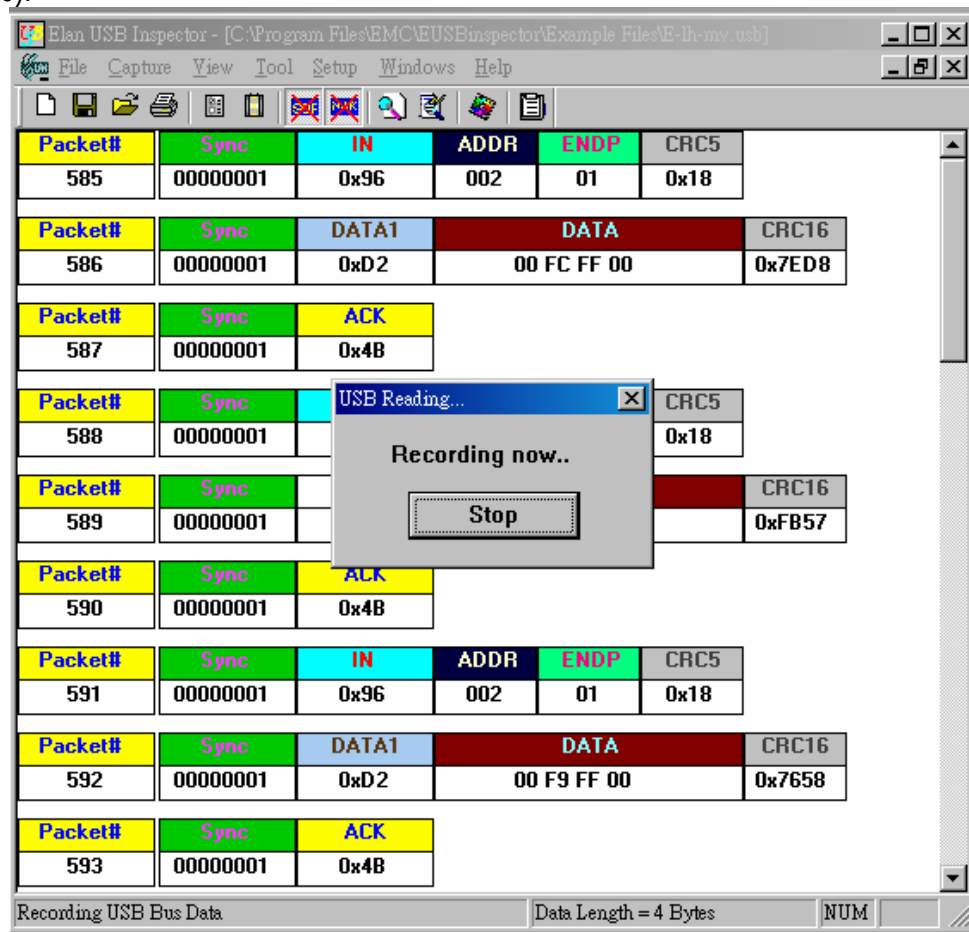

Figure 3-9 "Recording USB Bus Data" Window
1. Click the Record command and the recording process will display (Figure 3-9).